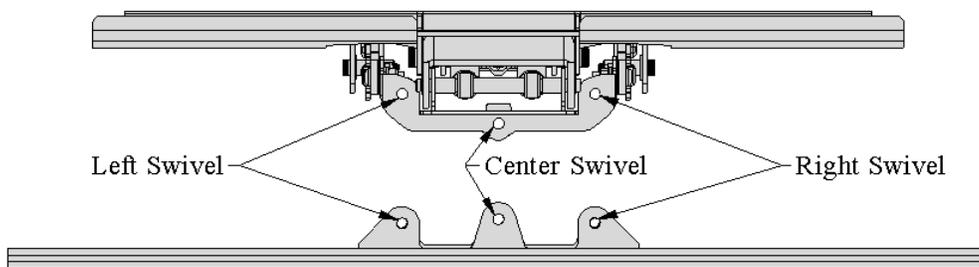

Figure 5 Swivel Holes (Top View of Mount)
1. The Swiveling Hook Plate needs to be attached to the Mount before anything else can be done. Once you have decided which swivel setting would be the best for you, find the corresponding Swivel Holes as shown in Figure 5.